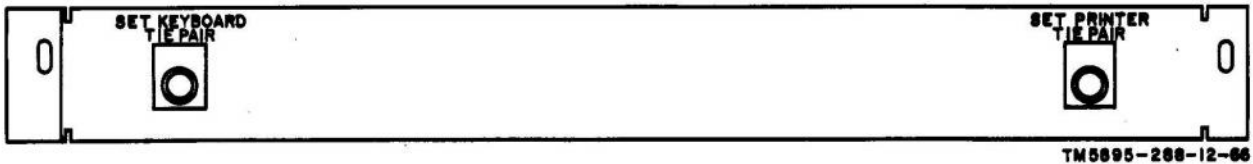

Figure 53. Control relay panel No. 2, jacks.
b. Control Relay Panel No. 2 (fig. 53).